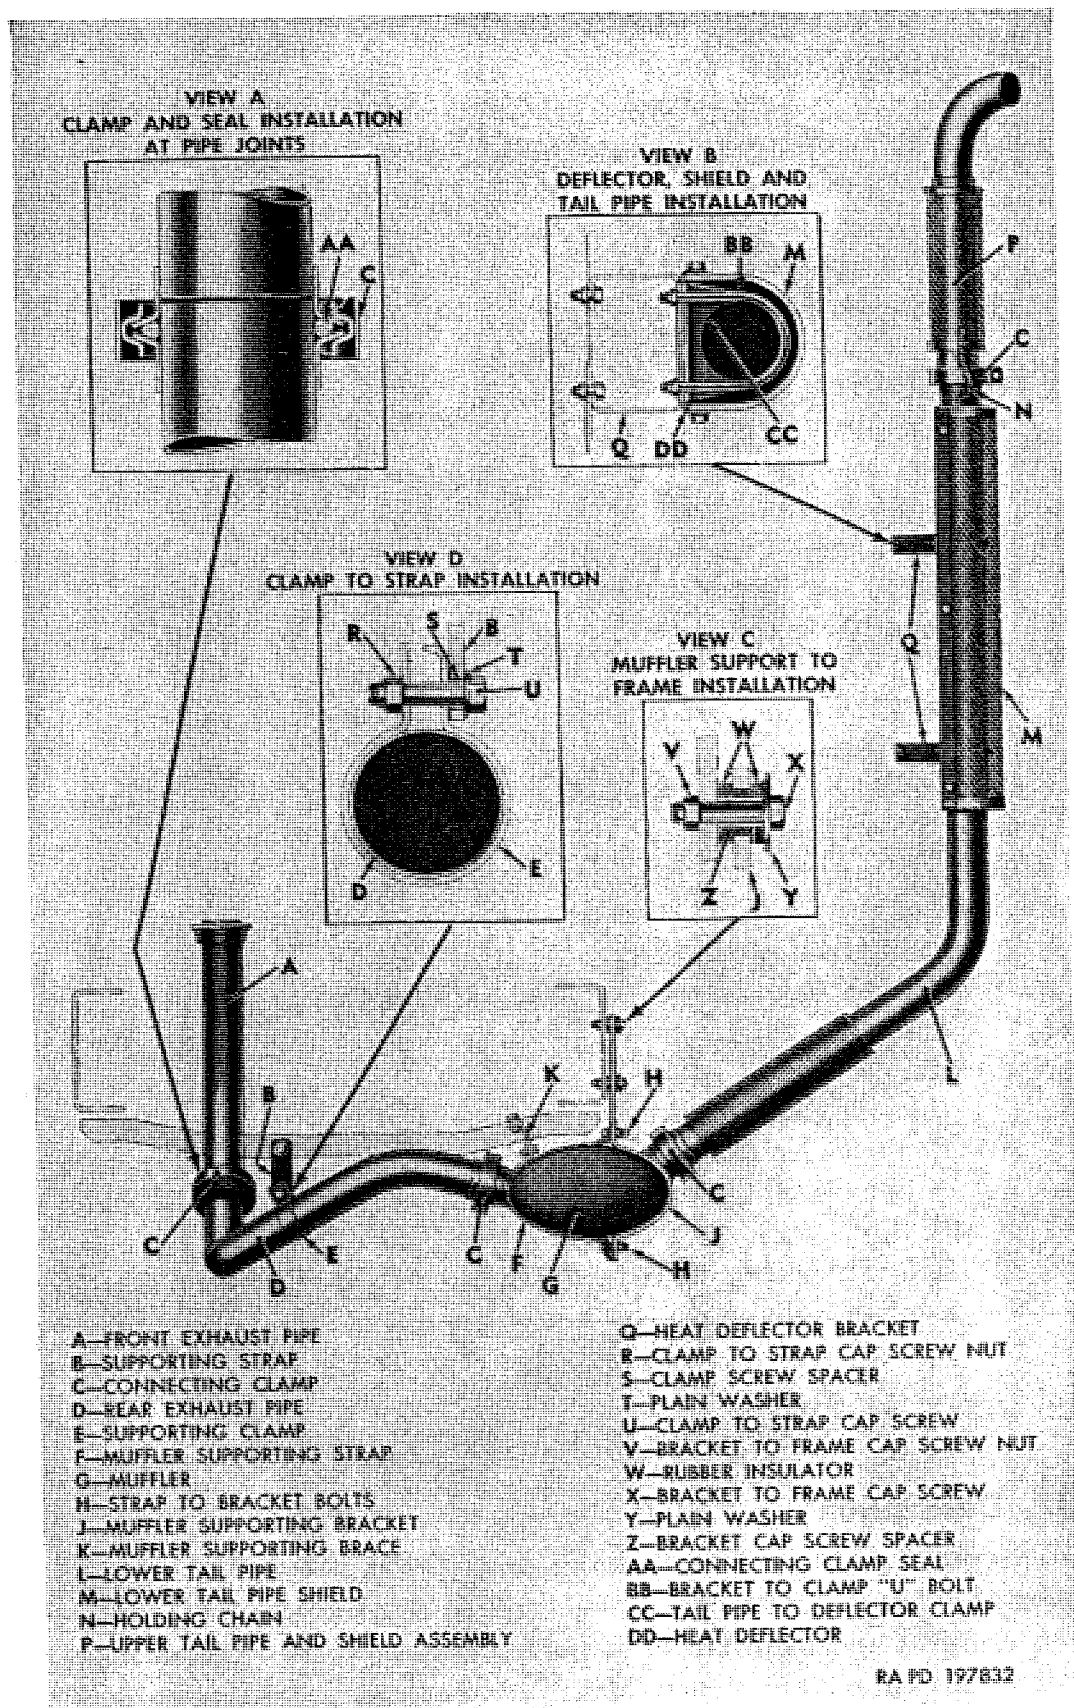
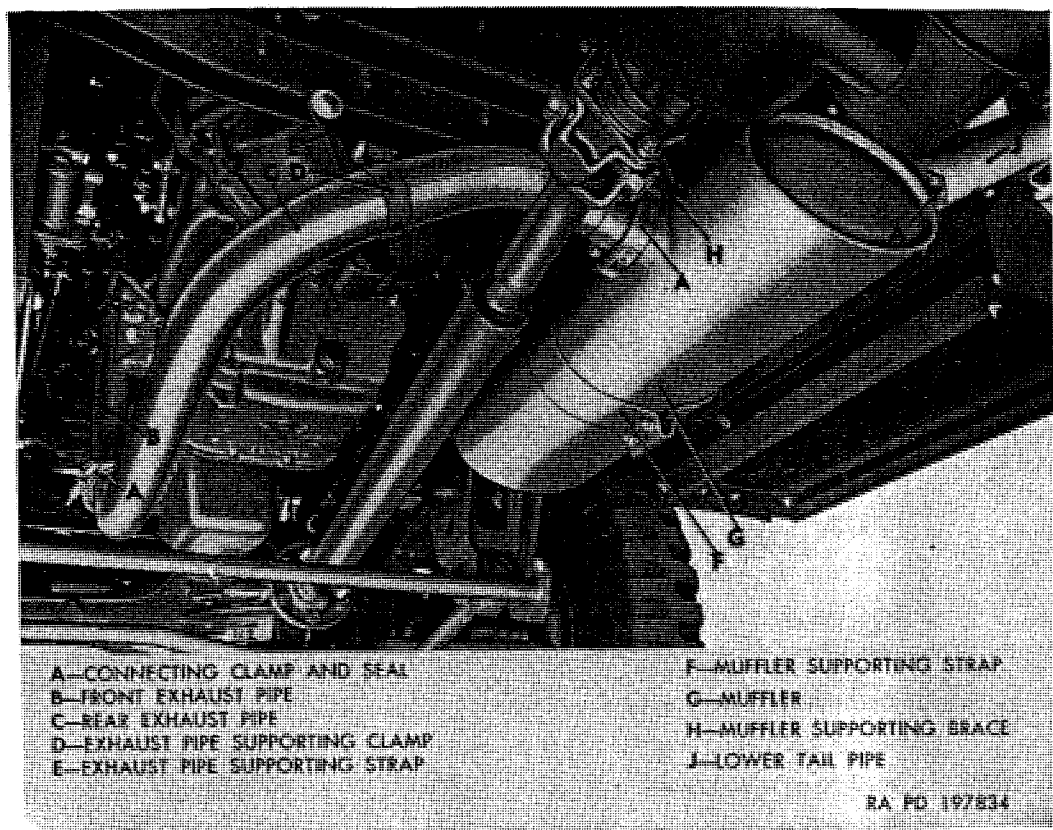
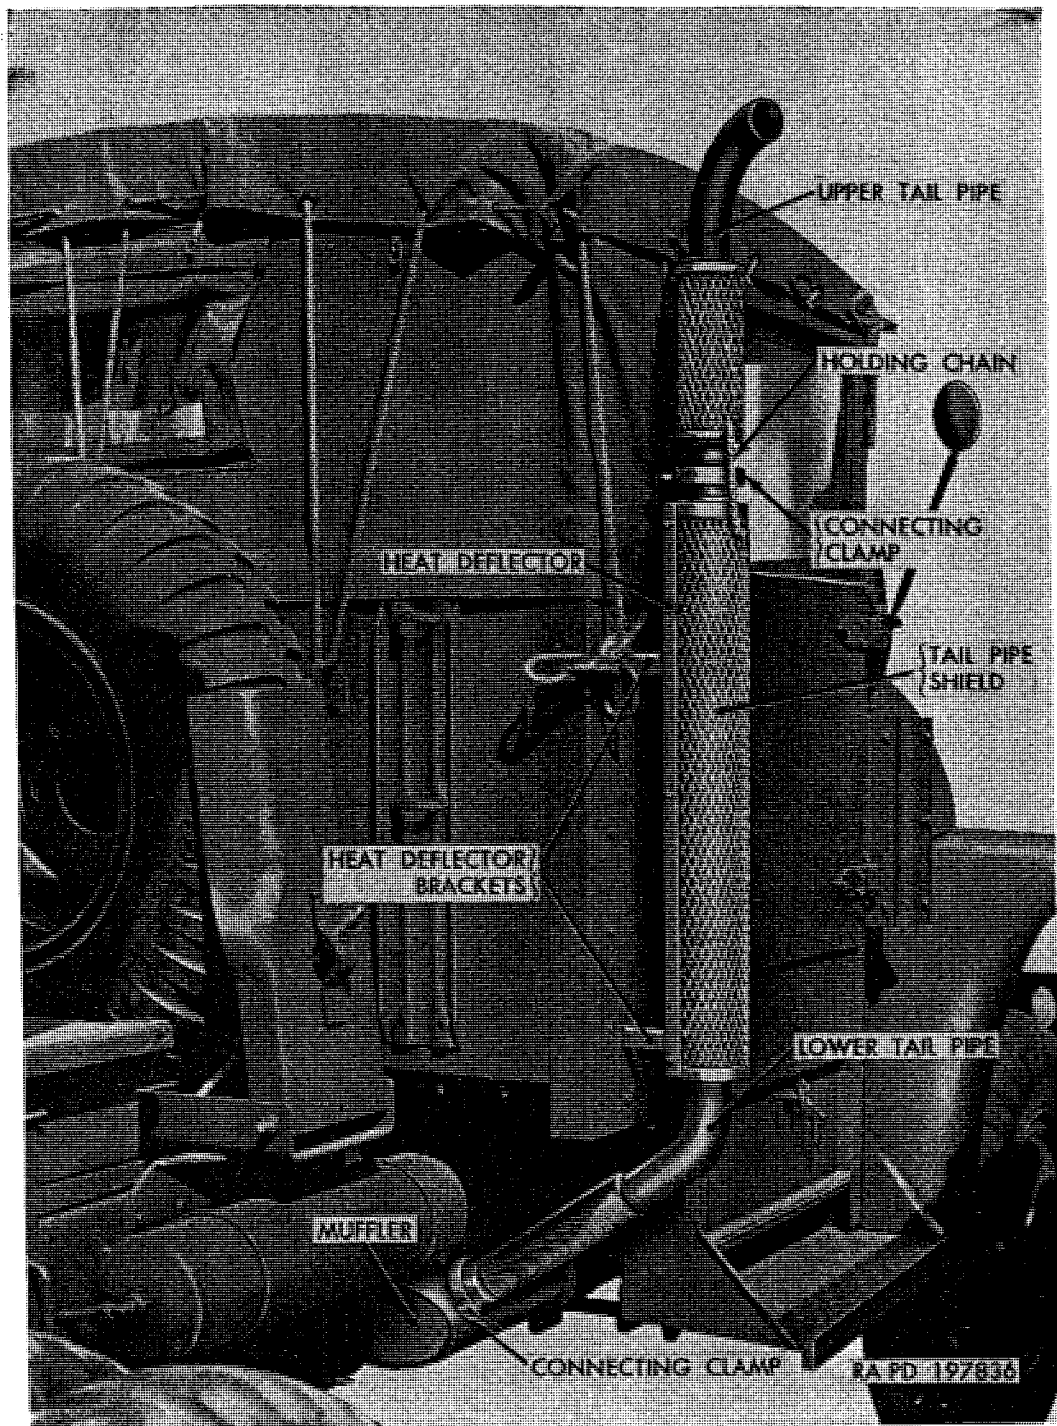

Figure 133. General arrangement of exhaust system—typical of all vehicles, except water tank truck M222.
Figure 135. Exhaust pipe and muffler installed.
Figure 136. Tailpipe installed.
a. General. This section includes description, removal, and installation of exhaust system components for all vehicles (fig. 133). However, removal and installation of parts peculiar to the exhaust heater system on water tank truck M222 are covered in paragraphs 338 through 349.
engine exhaust manifold as shown in figure 134 and secured to rear exhaust pipe with a connecting clamp and seal. A heat shield (H, fig. 134) is clamped to front exhaust pipe and braced to a stud mounted in engine block. Rear exhaust pipe is attached to muffler with a connecting clamp and seal (A, fig. 135) and supported on transmission rear support by a clamp and supporting strap (D and E, fig. 135). On vehicles equipped with a water tank body (M222), a control valve is incorporated in the rear exhaust pipes which allows the exhaust to be diverted to heating chamber in water tank body. For information on servicing exhaust control valve and other components of the water tank heating system, refer to paragraphs 347, 348, and 349.
c. Muffler (fig. 135). The muffler assembly is mounted under vehicle at right side and is secured to frame with muffler supporting bracket (J, fig. 133) and muffler supporting strap (F, fig. 133). The muffler supporting strap is also attached to transmission rear support by muffler supporting brace (K, fig. 133).
d. Tailpipes (fig. 136). The two-section tailpipe is connected to muffler at lower end with a connecting clamp and seal (view A, fig. 133). The tailpipe assembly extends up the right side of cab structure on outside. Upper portion of lower tailpipe is protected with a demountable guard to prevent injury to personnel, and is mounted to cab structure with U-bolts and clamps (view B, fig. 133). Upper tailpipe is secured to lower tailpipe with a connecting clamp and seal. Upper pipe is chained to lower pipe, and can be disconnected and lowered to obtain lower operable cab height. Late model vehicles have a guard welded to upper tailpipe, and upper end of pipe is curved to prevent rain and snow from settling directly into tailpipe, and to deflect exhaust gases away from cab. Early model straight upper tailpipes may be reshaped to form a curvature at outlet end of pipe as outlined in paragraph 140c.
- (1) Remove three jamnuts (B), cap screw nuts (C), and cap screws (F) from flange attaching front exhaust pipe (G) to exhaust manifold (A).
- (2) Push flange down on exhaust pipe. Remove flange seal (E) and gasket (D).
- (3) Remove nut (L) and lockwasher from heat shield brace stud; then pull brace (K) off stud. Remove flat washer from stud.
- (4) Remove connecting clamp and seal (A, fig. 135) attaching front exhaust pipe to rear exhaust pipe. Remove front exhaust pipe. Remove heat shield and clamp from front exhaust pipe.
- (1) Position heat shield (H) on front exhaust pipe (G) with heat shield clamp (J). Install a $\frac{3}{8}$ -24 x $1\frac{1}{4}$ cap screw in clamp, and install a $\frac{3}{8}$ -24 safety nut on cap screw. Do not tighten nut at this time.
- (2) Position flange seal (E) and flange gasket (D) on flange of front exhaust pipe (G). Lift exhaust pipe into position against exhaust manifold; then connect exhaust pipe flange to exhaust manifold with three $\frac{3}{8}$ -16 x 2 flange cap screws (F) and flange cap screw nuts (C). Tighten nuts evenly. Install and tighten $\frac{3}{8}$ -16 jamnuts (B).
- (3) Position a $\frac{3}{8}$ -inch flat washer on heat shield brace stud. Position heat shield brace (K) on stud; then install a $\frac{3}{8}$ -inch lockwasher and $\frac{5}{16}$ -24 brace stud nut (L). Tighten heat shield clamp screw nut.
- (4) Attach front exhaust pipe to rear exhaust pipe with connecting clamp and seal (A, fig. 135). Tighten clamp bolt nut sufficiently to prevent leakage.
- (1) Remove rear exhaust pipe clamp cap screw nut, cap screw, and washer attaching exhaust pipe supporting clamp (D, fig. 135) to supporting strap at transmission rear support.
- (2) Remove connecting clamps and seals (A, fig. 135) securing rear exhaust pipe to front exhaust pipe and to muffler. Remove rear exhaust pipe. Remove supporting clamp from rear exhaust pipe.
Note. Following procedures apply to all vehicles, except water tank truck M222. The key letters noted in parentheses are in figure 135, except where otherwise indicated.
- (1) Position connecting clamps and seals (A) and exhaust pipe supporting clamp (D) on rear exhaust pipe (C).
- (2) Position rear exhaust pipe (C) to muffler (G) and front exhaust pipe (B) and attach with connecting clamps and seals (A). Tighten clamp bolt nuts sufficiently to prevent leakage.
- (3) Aline bolt holes of rear exhaust pipe supporting clamp (D) with hole in exhaust pipe supporting strap (E). As shown in view D, figure 133, place a $1\frac{3}{32}$ -inch plain washer and
Note. The key letters noted in parentheses are in figure 135, except where otherwise indicated.
- (1) Loosen cap screw nut on rear exhaust pipe supporting clamp (D).
- (2) Remove connecting clamps and seals (A) attaching rear exhaust pipe (C) and lower tailpipe (J) to muffler. Pull pipes clear of muffler.
- (3) Remove two nuts and cap screws from muffler supporting brace (H), and remove brace.
- (4) Remove two upper and lower nuts and cap screws attaching muffler supporting strap (F) to muffler supporting bracket. Remove muffler assembly.
- (5) Muffler supporting bracket (J, fig. 133) may be removed by removing four nuts and cap screws attaching bracket to frame.
- (1) If muffler supporting bracket has been removed, install in sequence shown in view C, figure 133. On each of four $\frac{5}{16}$ -24 x $1\frac{5}{8}$ bracket-to-frame cap screws (X, fig. 133), place one plain washer (Y, fig. 133), bracket cap screw spacer (Z, fig. 133), and one rubber insulator (W, fig. 133) over spacer with smaller outside diameter of insulator facing threaded end of screw. Insert cap screw with washer, spacer, and insulator through muffler support bracket. Install another rubber insulator (W, fig. 133) over spacer on cap screw with smaller outside diameter of insulator facing bracket. Position bracket, with cap screws installed, on frame side member. Install four $\frac{5}{16}$ -24 bracket-to-frame cap screw nuts (V, fig. 133) and tighten to $9\frac{1}{2}$ to 13 pound-feet torque.
- (2) Position muffler into place in supporting bracket. Install muffler supporting strap (F) around muffler and attach strap to supporting bracket with four $\frac{3}{8}$ -24 x $1\frac{1}{4}$ cap screws and $\frac{3}{8}$ -24 safety nuts. Tighten nuts just enough to support muffler until after exhaust pipe and tailpipe are connected.
- (3) Attach muffler supporting brace (H) to muffler with a $\frac{5}{16}$ -24 x $\frac{5}{8}$ cap screw and $\frac{5}{16}$ -24 safety nut, and attach supporting brace to transmission rear support with a $\frac{5}{16}$ -24 x $\frac{3}{4}$ cap screw and $\frac{5}{16}$ -24 safety nut. Tighten each nut to $9\frac{1}{2}$ to 13 pound-feet torque.
- (4) Attach rear exhaust pipe (C) and lower tailpipe (J) to muffler with seals and connecting clamps (A). Tighten clamp bolt nuts sufficiently to prevent leakage.
- (5) Tighten rear exhaust pipe supporting clamp cap screw nut to 20 to 27 pound-feet torque. Tighten muffler supporting strap cap screw nuts to 20 to 27 pound-feet torque.
- (1) The upper and lower tailpipes (fig. 136), together with the heat deflector and shield, can be removed from cab and muffler as an assembly. The assembly can then be disassembled into component parts.